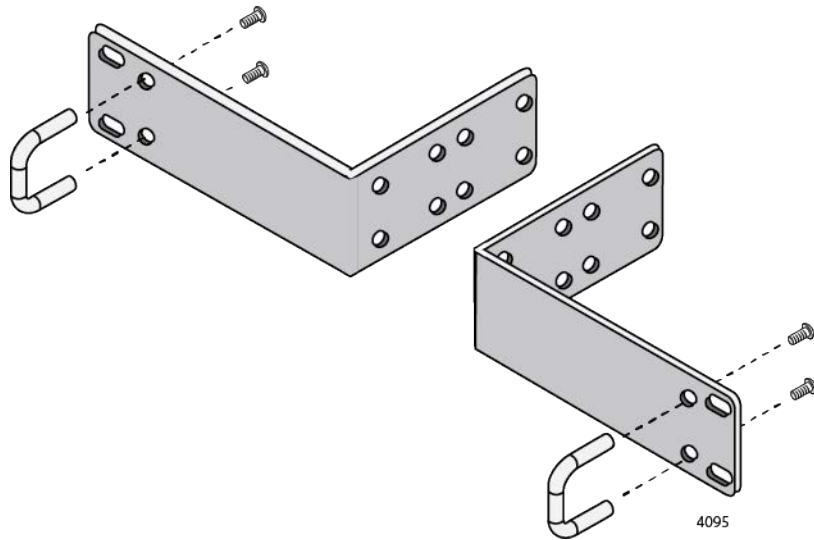

Figure 25. Attaching the Handles to the AT-RKMT-J14 Brackets
1. Attach the two handles to the AT-RKMT-J14 Brackets using the four M3x6mm screws included with the switch. Refer to Figure 25 on page 64.